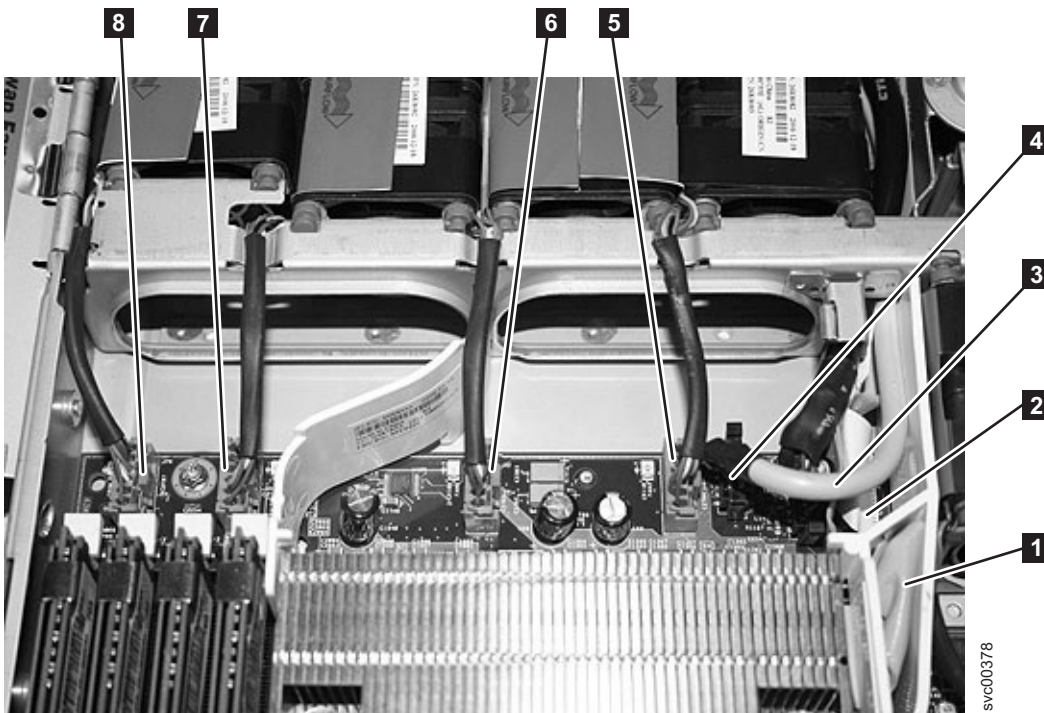

Figure 281. Connectors on the right front side of the SAN Volume Controller 2145-8G4 system board
9. Disconnect the connectors from the system board, which are shown in Figure 281. From the right front side of the system board, remove the following: